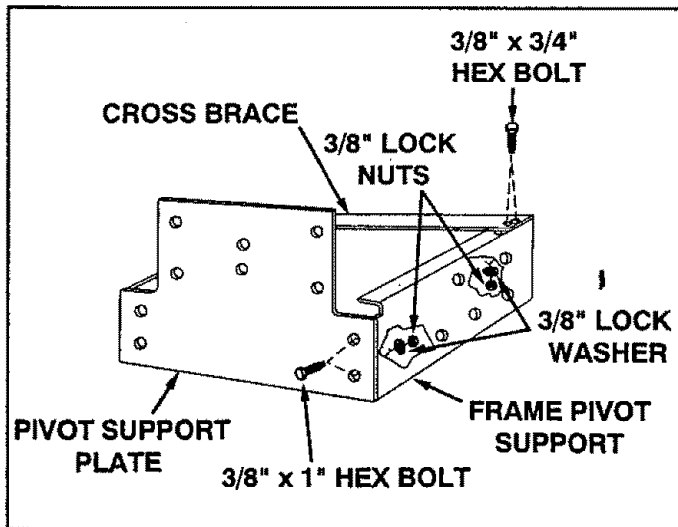

FIGURE 15
- Assemble frame pivot supports (R.H. and L.H.) to pivot support plate using four 3/8" x 1" hex bolts, lock washers and locknuts. See figure 15.
- Using the rear two holes on the frame pivot supports, attach the cross brace using four 3/8" x 3/4" hex bolts, lock washers and lock nuts. See figure 15.